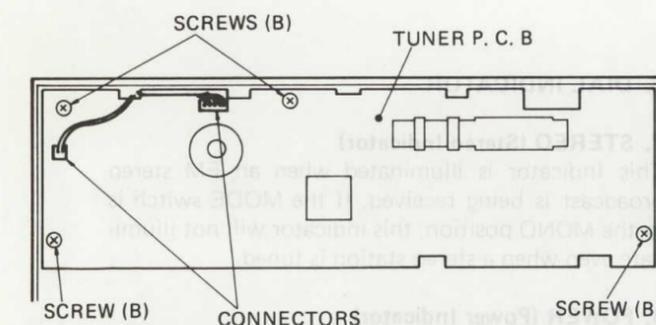

Fig. 2
- 2) Remove the 4 screws (B) shown in Fig. 2 and remove the wiring (2 connectors J702/J703) to the Tuner PCB. The Tuner PCB can be removed.